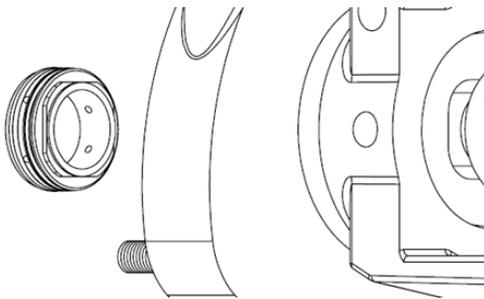

Figure 9
2. Line up a flat on the stationary seal to the a flat of the window of the casing and gently press the stationary seal into the casing bore. See Figure 9.